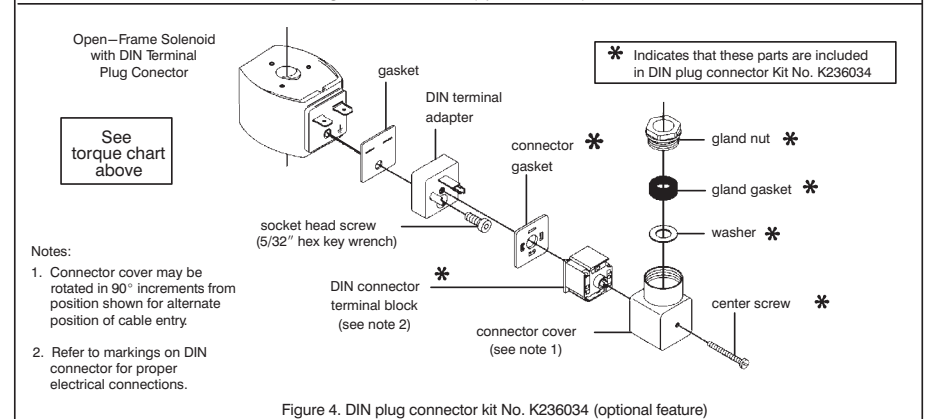

Figure 4. DIN plug connector kit No. K236034 (optional feature)
- **DIN Plug Connector Kit No. K236034:** Use this kit only for solenoids with DIN terminals. The DIN plug connector kit provides a two pole with grounding contact DIN Type 43650 construction (See Figure 4).